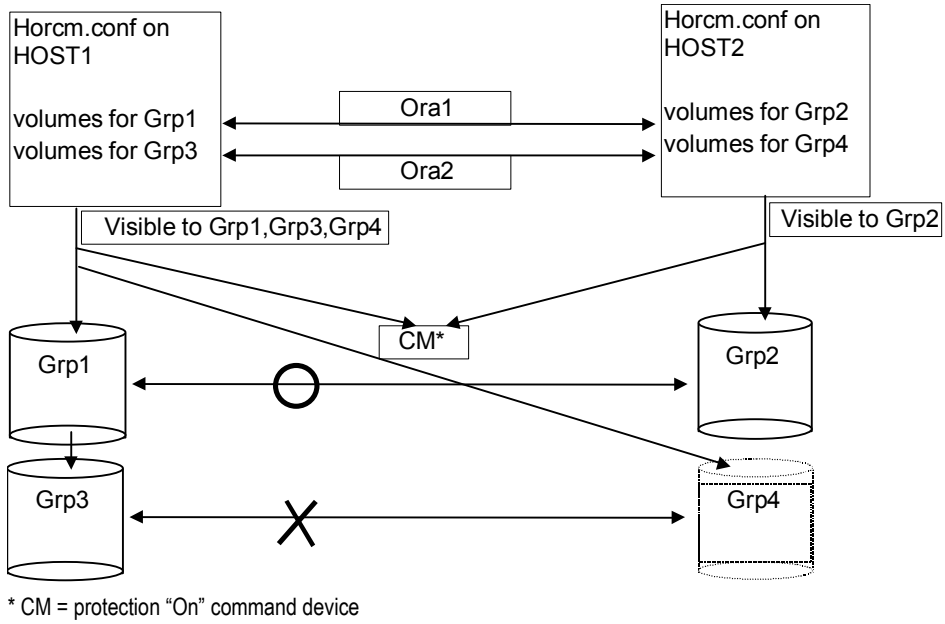

Figure 4.51 Example for the Two Host Configuration
Case (1): Two Hosts (Figure 4.51). In protect mode Ora2 are rejected to be operate the paired volume, because of Unknown for Grp4 on HOST2.